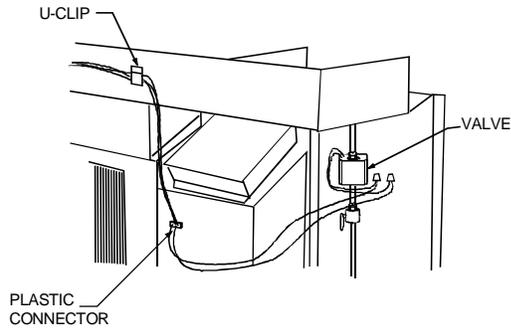

Figure 13
- Route the freeze thermostat wires through the U-clip on the hydronic top assembly and down in front of the control panel. Snap the plastic male pin connector into the plastic female pin connector located on the outside front surface of the control panel (Figure 13).